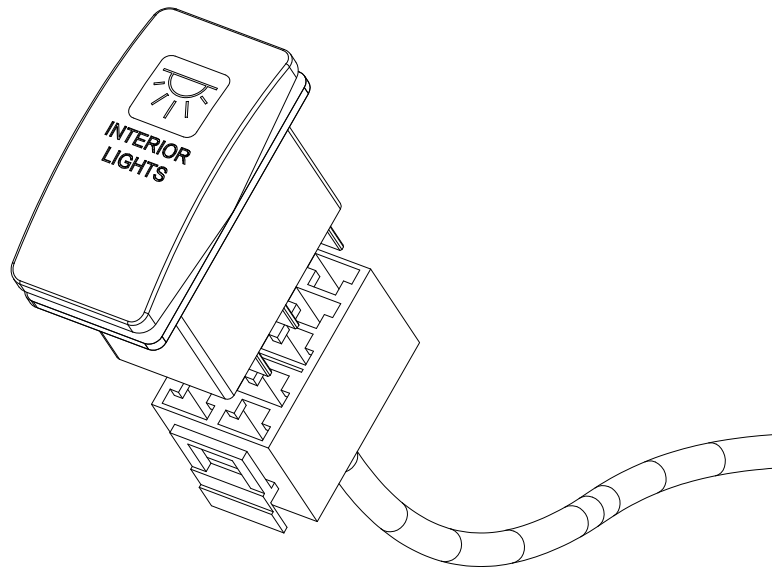

Figure 10
8. Disconnect the plug labeled "INTERIOR LT" from the interior light switch (see *Figure 10*).